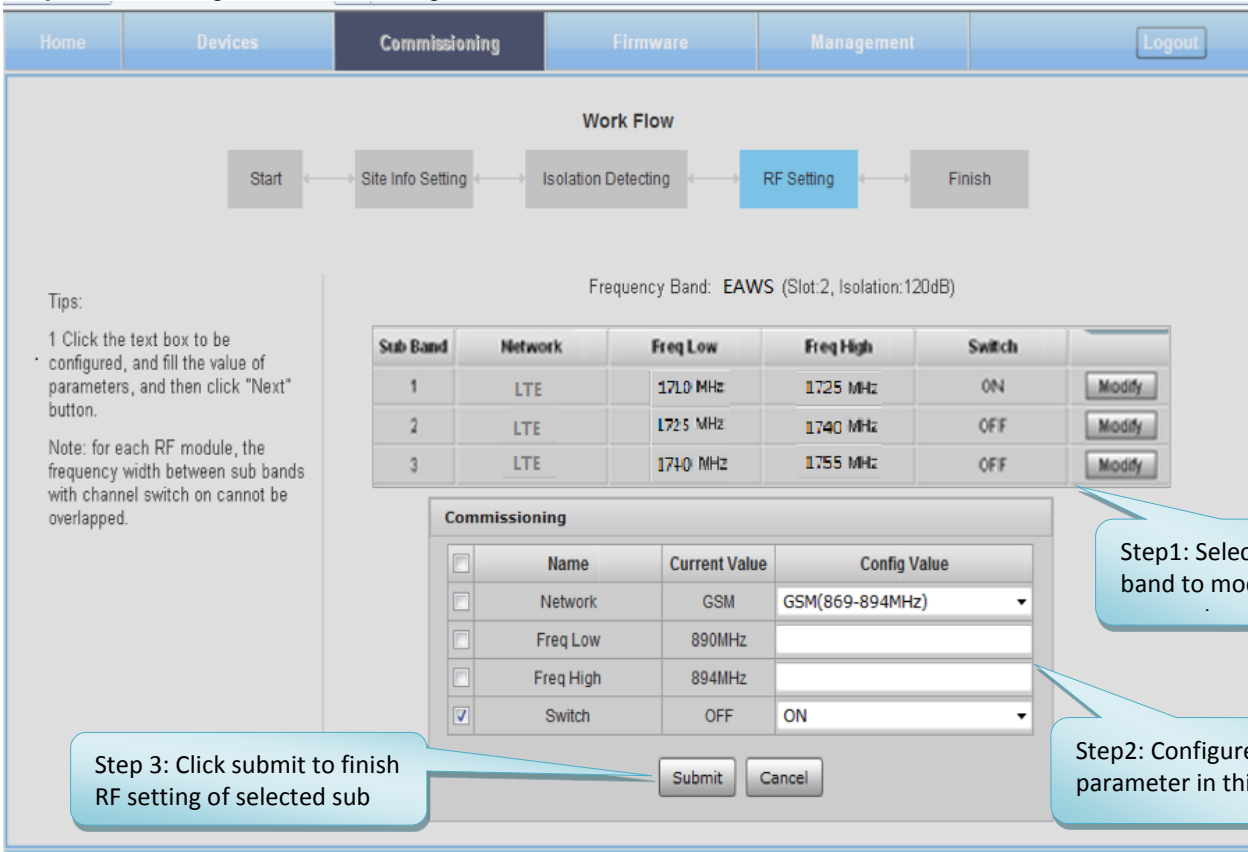

Figure 55: Commissioning Procedure – Subband bandwidth and Switch Setting
- ✓ Click  to continue. If isolation detection success, the process will go to RF Setting Screen shown as Figure 55. If failed, a Tips window will pop-up shown as Figure 54, users need to check whether the system isolation is very weak.